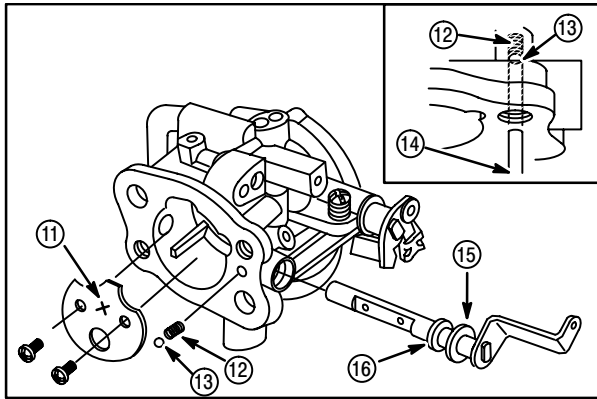

Fig. 53
7. Install new choke shaft seal (16) with sealing lip out, **Fig. 53**.
8. Assemble washer (15) onto choke shaft.
9. Insert spring (12) and check ball (13) in to spring pocket (14).
10. Push choke shaft into hole until ball engages groove in choke shaft, **inset, Fig. 53**.
11. Install choke plate (11) as shown.